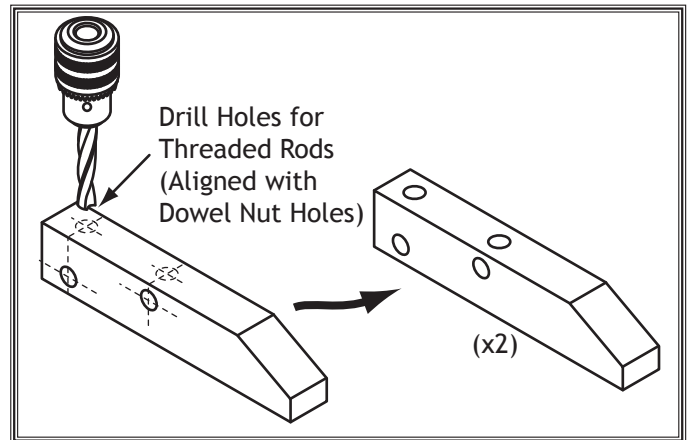

Figure 4. Drilling threaded rod holes.
3. Rotate the jaws, then drill four holes for the threaded rods. Make sure the holes are centered in the jaws and that they are aligned with the dowel nut holes (see **Figure 4**). Refer to **Sizing Information** on **Page 2** for the proper hole size.